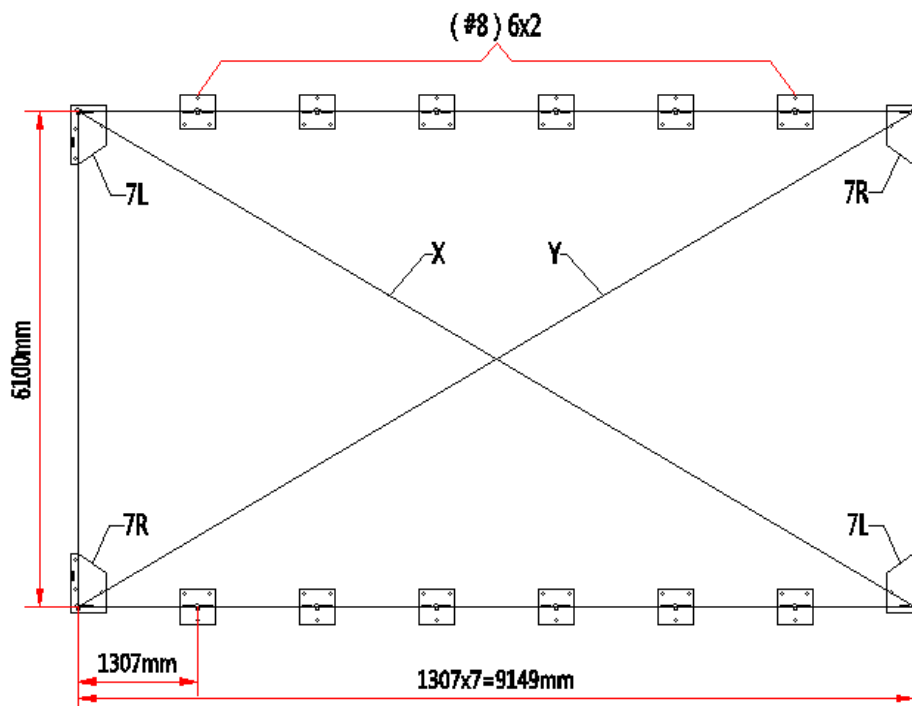

Figure 1
- Baseplates: all baseplates must be installed firmly with expansion bolts (#10) on this step (Figure 1).
- (4) Baseplates (#7L,7R)
- (12) Baseplates (#8)
- (48) Expansion bolts M12 (#10)